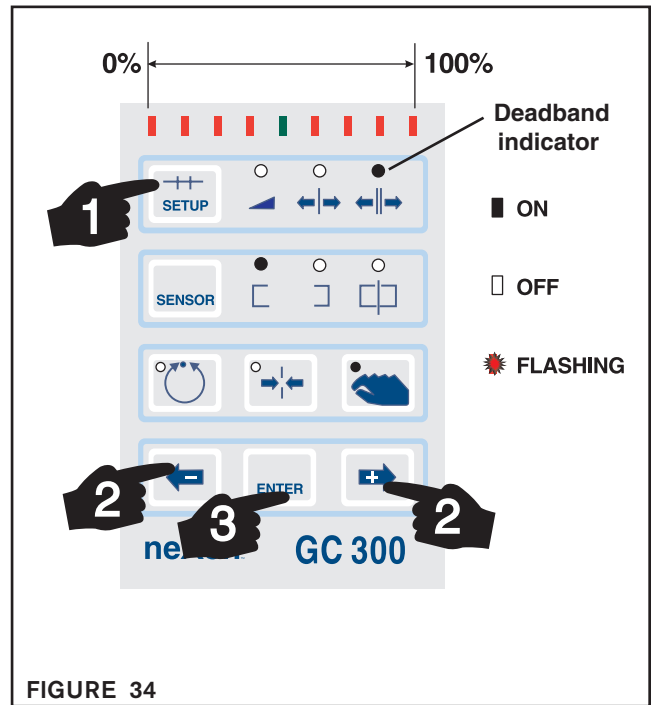

FIGURE 34
1. Repeatedly press the SETUP Key until the indicator for Deadband lights up (See Figure 34). The Bar Graph indicates the percent of deadband that is used, and the center or Green indicator flashes while changes are made (See Figure 34). The amount of deadband available depends on the sensor type and is limited to approximately 1/4 of the sensor's Sensing Window (refer to the sensor manual for sensing length specification).
3. Press ENTER to save any changes or press SETUP to exit without saving the changes (See Figure 34).